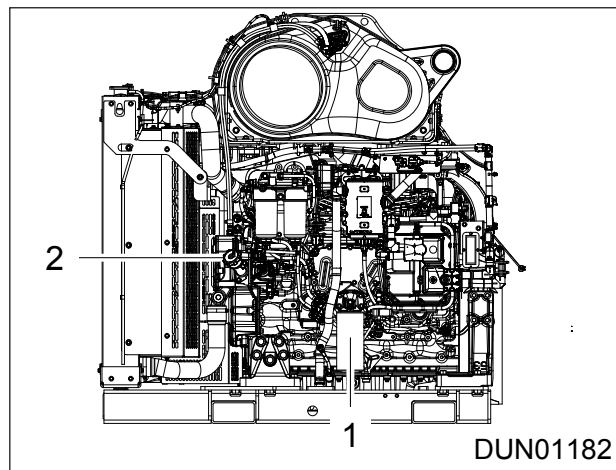

Figure 9.29 - Engine Oil Filter
5. Loosen the Filter (Item 1, Ref: Figure 9.29) and dispose off properly. Replace the new filter and hand tighten.